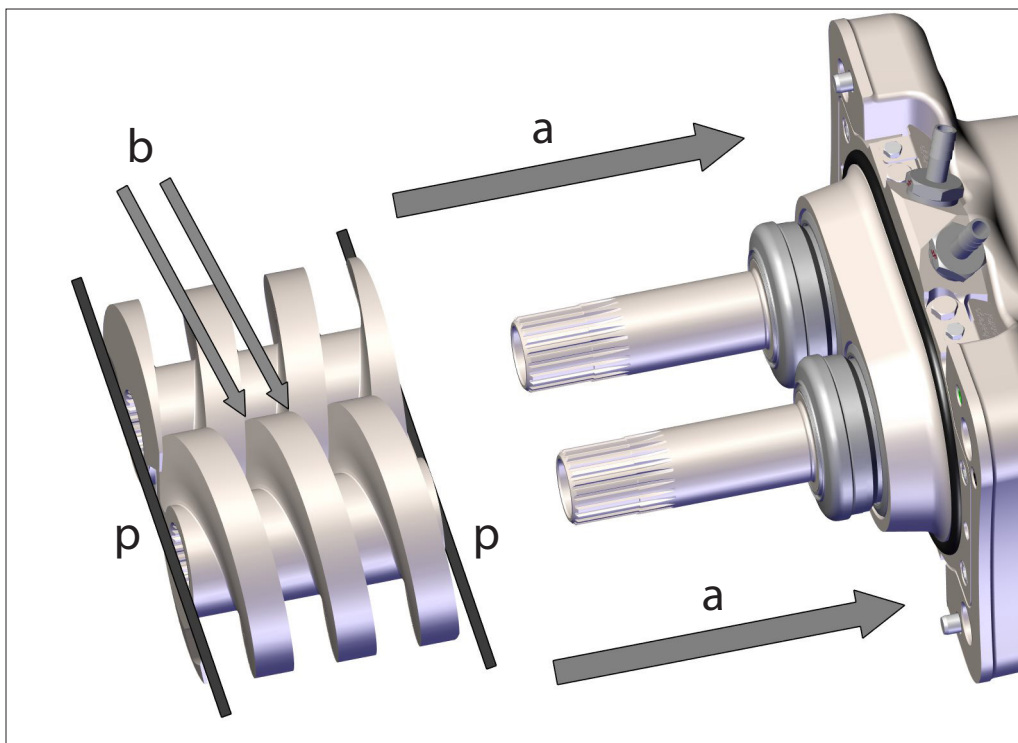

Fig. 12.2: The screw spindles are pushed on in pairs
3. Push the screw spindles in pairs onto the input/output shafts (arrow a in Fig. 12.2 on Page 68)
- 5. If both screw spindles are lying flat (p marks in Fig. 12.2 on Page 68) on both mechanical seal cartridges and there is also a gap (arrow b in Fig. 12.2 on Page 68) between the two screw spindles:
1. Arrange the interlocking screw spindles in pairs so that they are at one level (p markings in Fig. 12.2 on Page 68)
2. Push the two screw spindles together onto the input/output shafts (arrow a in Fig. 12.2 on Page 68)
7. Use a feeler gage to set the gap between the spindles on the two screw spindles. (arrow b in Fig. 12.2 on Page 68)